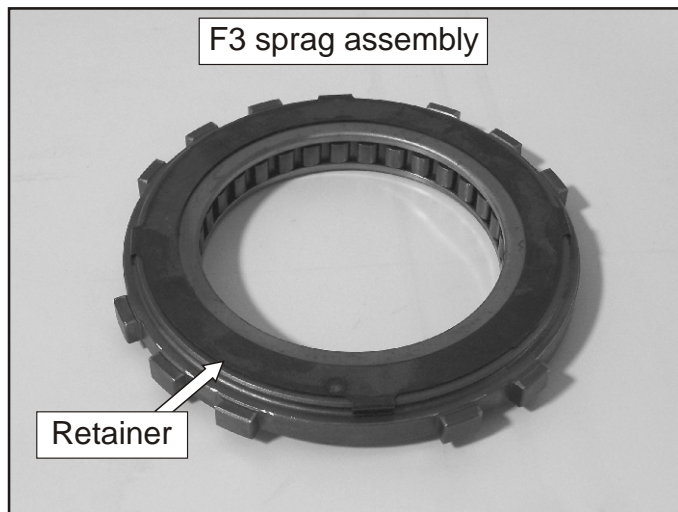

Figure 148
- 94. Remove the retainer from the top of the outer sprag race as shown in Figure 148.